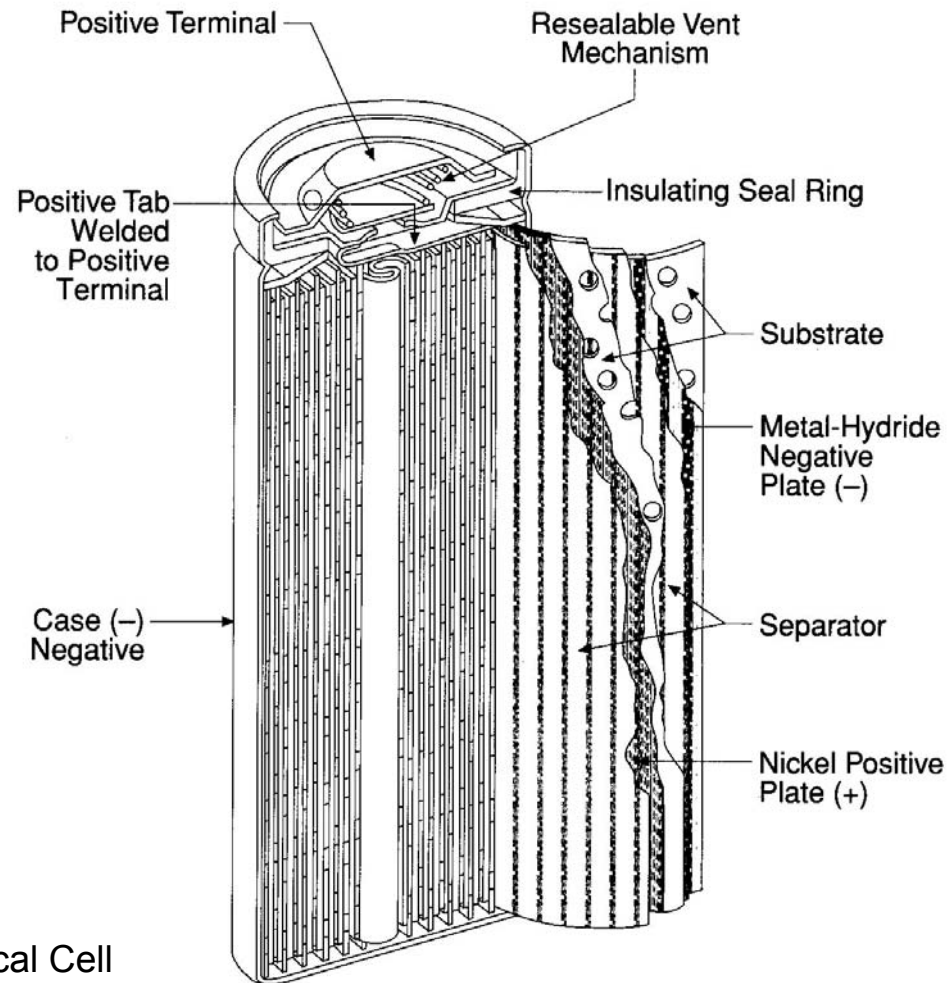

Figure 3.
- The NiMH couple lends itself to the wound construction shown in figure 3, which is similar to that used by present-day cylindrical nickel-cadmium cells. The basic components consist of the positive and negative electrodes insulated by separators. The sandwiched electrodes are wound together and inserted into a metallic can that is sealed after an injection of a small amount of electrolyte.